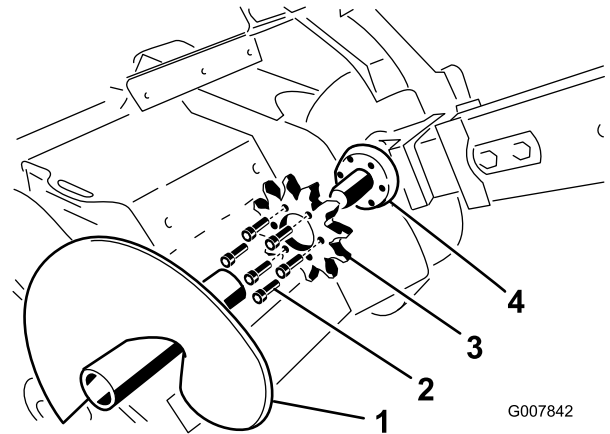

Figure 65
4. Remove the spoils auger (Figure 65).
9. Remove the 6 bolts securing the drive sprocket (Figure 65).
10. Remove and discard the drive sprocket (Figure 65).
11. Clean the sprocket mounting surface on the trencher (Figure 65).
12. Slide the new sprocket onto the shaft (Figure 65).
13. Thread the 6 bolts into the sprocket finger tight (Figure 65).